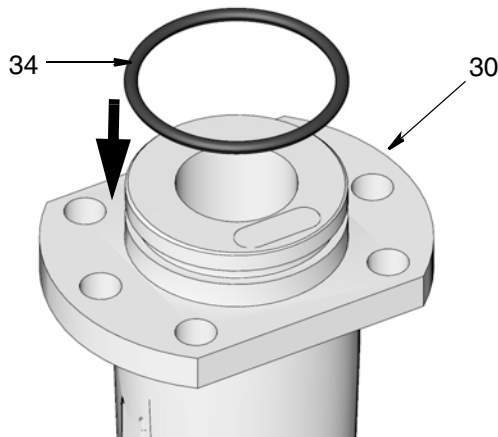

FIG. 48
**NOTE:** If the o-ring (34) is not damaged, you do not need to replace this part. Use a brush to apply a thin layer of grease around the o-ring and threads of the outlet fitting (30). Then continue installation instructions with Step 13
- b. Apply a thin layer of grease to the new o-ring (34) and install new o-ring over outlet (30) as shown in FIG. 48.